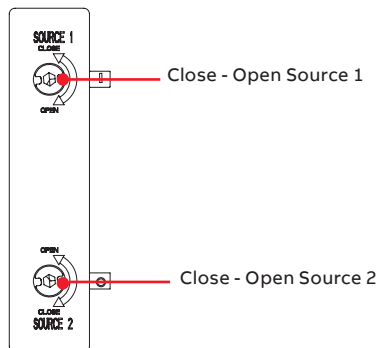

Fig. 3.4 Source1, Source 2 Direction of Handle Rotation for Contact Closure
3. Insert the manual handle into the desired port of the automatic transfer switch (Fig. 3.4).
5. Rotate handle with two hands, in the direction as shown on the markings, to achieve the proper contact state (Fig. 3.4).